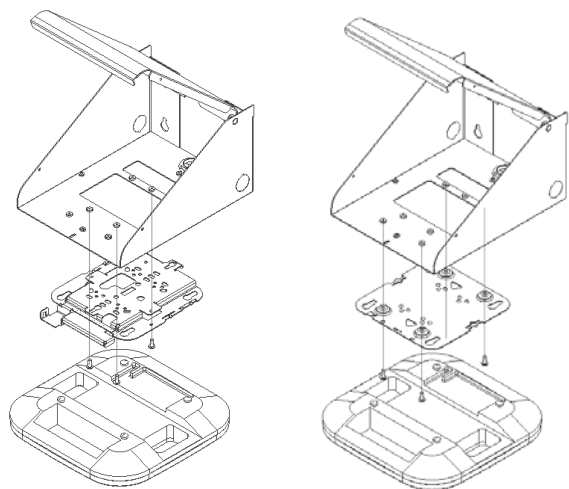

Figure 1
Step 2a (Cisco Access Points Only) – Use the legend on the back page to determine which hole pattern to use. Securely fasten the *access point's mounting bracket* to the mount using the included (4) # 8-32 screws (Figure 1).